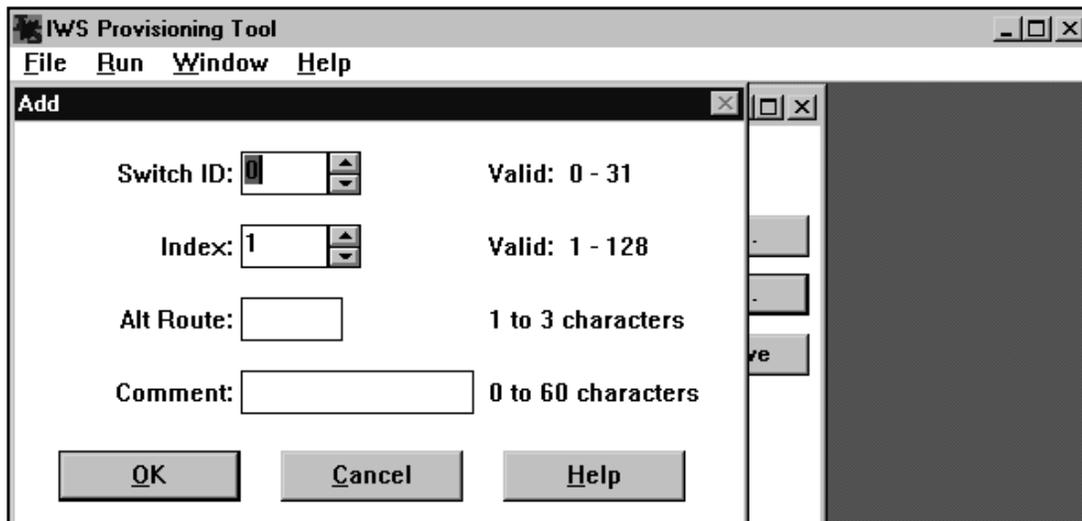

FIGURE 113. Example of Add dialog box for a table file
8. To add data, select Add to open the Add dialog box. (See Figure 113.)